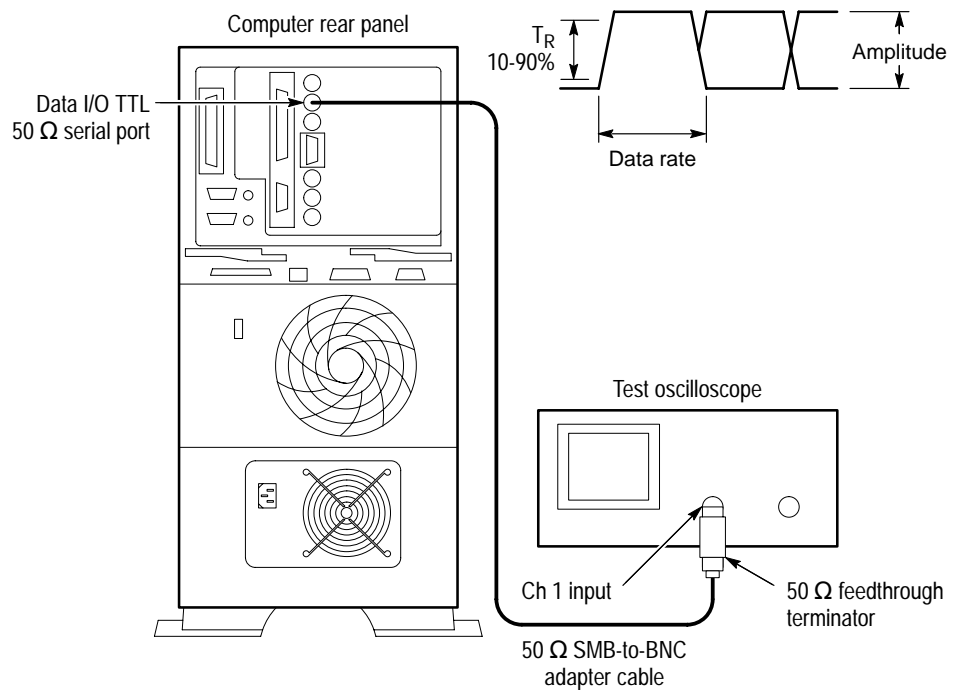

Figure 13: Setup for measuring the TTL 50 ohm data I/O port
17. Move the test system output cable to the TTL 50 Ω Data I/O Port. See Figure 13.
- 20.** Verify a waveform amplitude of approximately 3.0 volts, a data rate of 45 MHz, and a rise time of approximately 2.0 ns. See Figure 13.